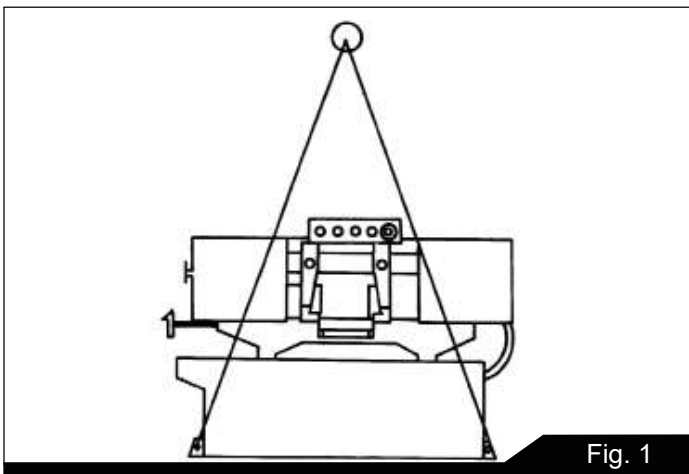

Fig. 1
1. Using lifting straps that are isolated from the band saw's finished surfaces, lift machine and place in desired location. See Figure 1 for strap placement.
2. Install four leveling bolts with lock nuts on both sides of the base as shown in the parts breakdown on page 16, items 2 and 3.